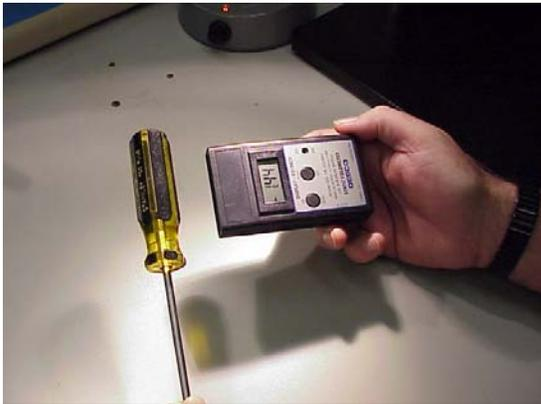

Fig. 1 Screwdriver handle with a field strength of 1,440 volts
3. With the other hand bring the field meter to the calibrated measuring distance, typically 1” (2.54cm). Note both the reading and the rate of decay, if any. (See Fig. 1&2)